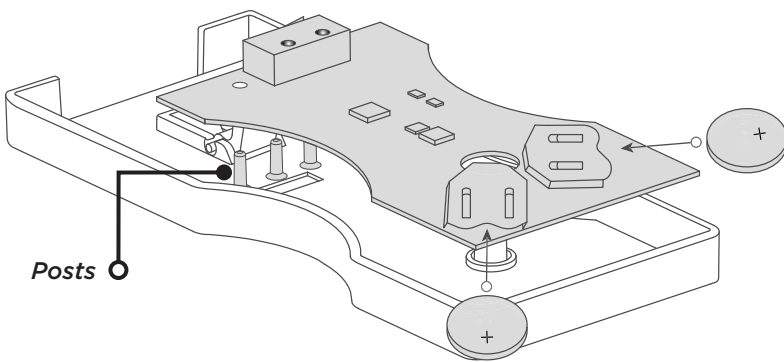

Figure 3: Remove the PCB and Install the Batteries
1. Gently lift the PCB out of the housing as shown in Figure 3.
3. Place the PCB back into its housing and secure the board on the posts. Ensure the switch is placed correctly and the lever arm is in contact with the switch. See Figures 3, 4, and 5.